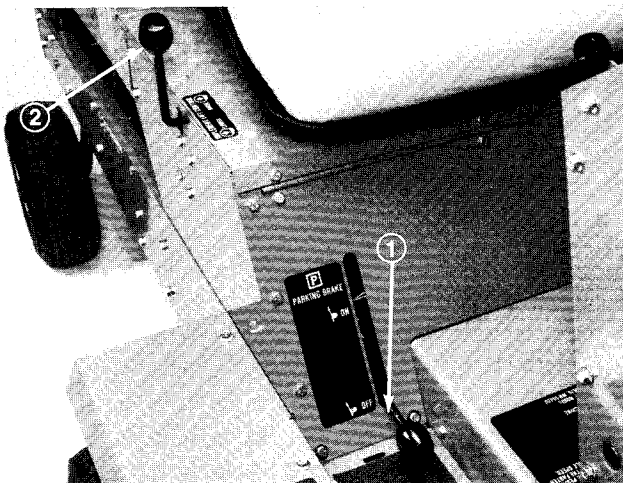

Figure 7
**Parking Brake** (Fig. 7)— Whenever the engine is shut off, the parking brake must be engaged to prevent accidental movement of the machine. To engage the parking brake, pull up on lever. Parking brake is equipped with an interlock, which shuts off engine when PTO switch or traction pedal are engaged with brake on.
**Implement Lift Lever** (Fig. 7) — The hydraulic lift lever has three positions: LOWER, RAISE and NEUTRAL. To lower cutting unit to the ground, move lift lever forward. When lowering cutting unit, make sure hydraulic cylinder is completely extended before releasing lift lever. To raise cutting unit, pull lift lever rearward to the RAISE position.